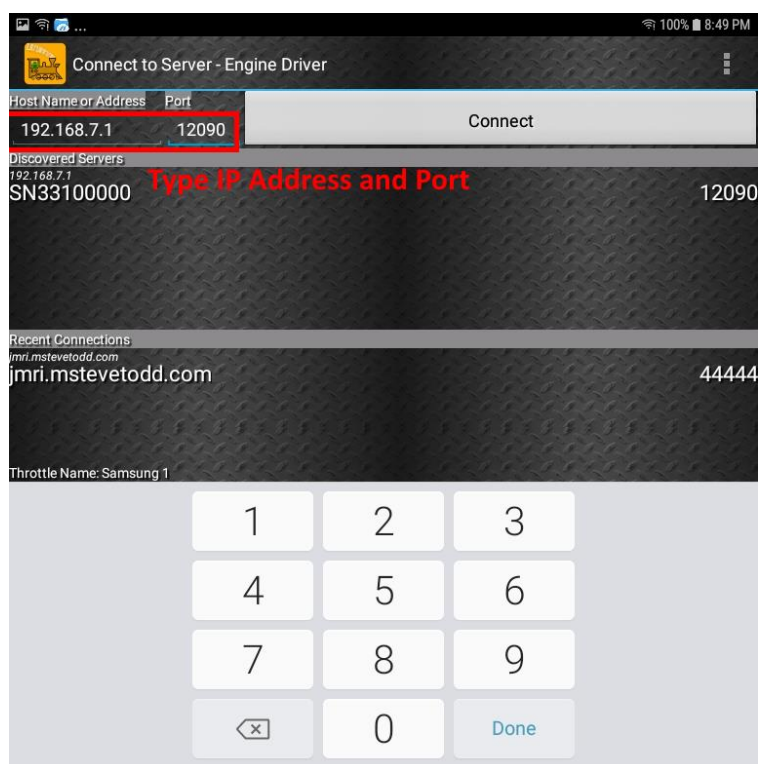

Figure 18 Connecting manually to the WFD-30 WiThrottle Server
- (11) **Only if the WFD-30 is not discovered** for some reason, after waiting a few moments, you must type the IP Address of the WFD-30 unit always 192.168.7.1 in the “Server Address” box at the top-left and the port value of 12090 in the port textbox as Figure 18, then tap the “Connect” button.